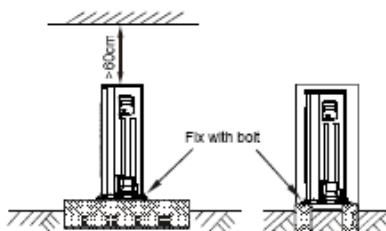

Fig.6-6
- Make concrete foundation accoding to the sepecif-ications of the outdoor units.(Refer to Fig.6-6)
- Fasten the feet of this unit with bolts firmly to prevent it from collapsing in case of earthquake or strong wind.(Refer to Fig.6-6)